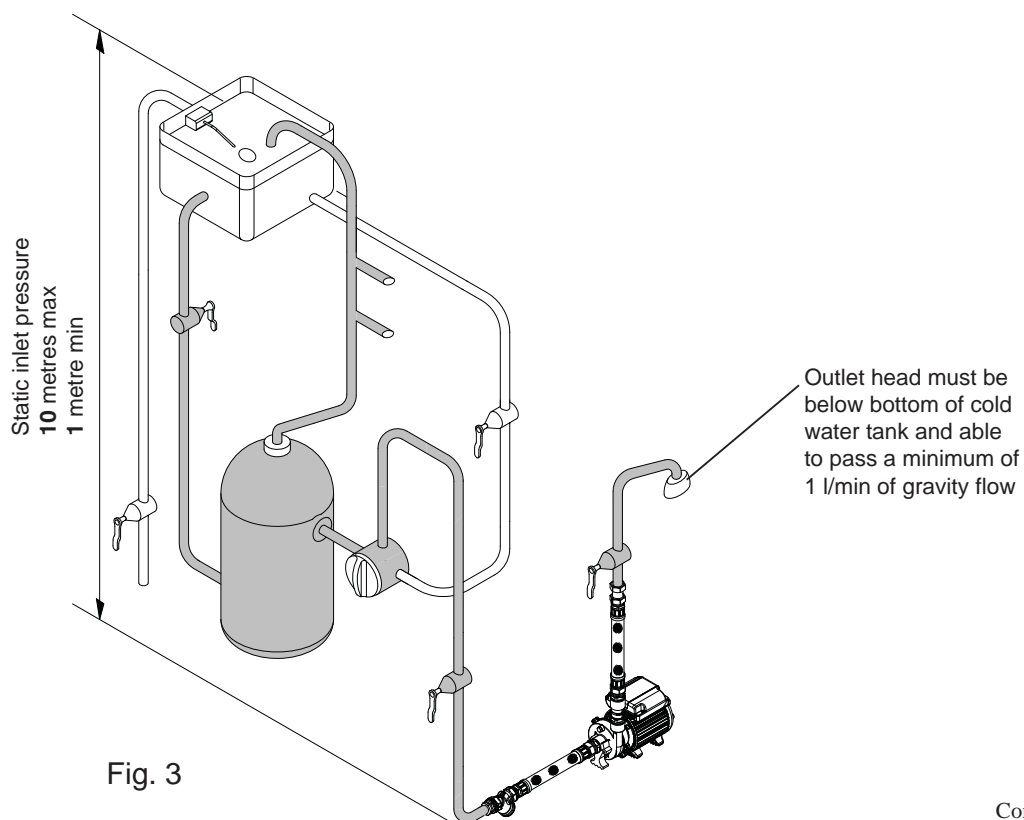

Fig. 3
- 2.16 **Static inlet pressure:** Before deciding where to locate the unit check to ensure the static inlet head between pump and cold water level (Fig. 3 & 4) is at least 10 metres and does not exceed the max inlet head of 14 metres for the S1.4.
- 2.20 **Static outlet pressure:** The static outlet head (Fig. 3 & 4) must also be within the maximum requirement of 14 metres for S1.4.
- 2.25 **Preferred pump location:** The preferred pump location is at floor level next to the hot water cylinder or a level that is below the secondary tapping that feeds the pump. This will ensure the pump has access to an air free water supply which is important for trouble free operation (Figs. 3 & 4).